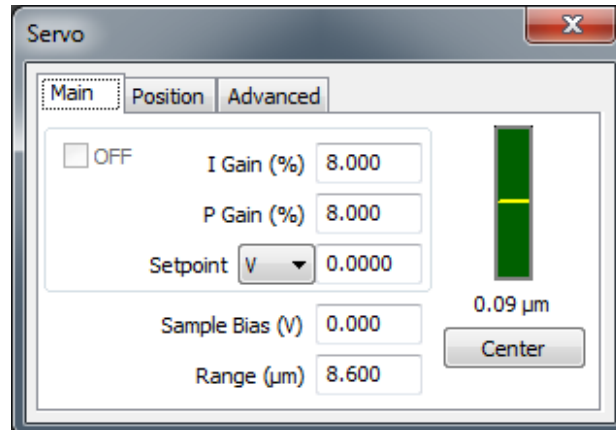

Figure 111 Initial Servo settings for FlexGrid Spectroscopy
- 3 In the Servo dialog box (Figure 111), set the following parameters as shown below: